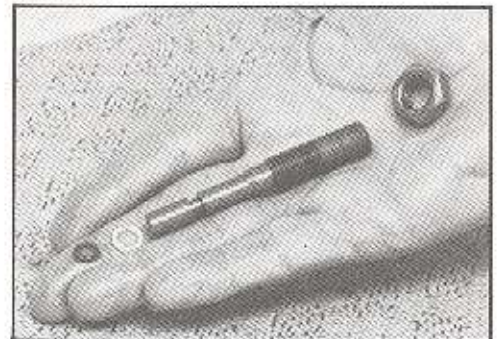

Figure 88
40. Remove and discard backup washer (10A) and o-ring (10) from adjusting screw (48). Remove nut (49) if replacement is required. SEE FIGURE 88.